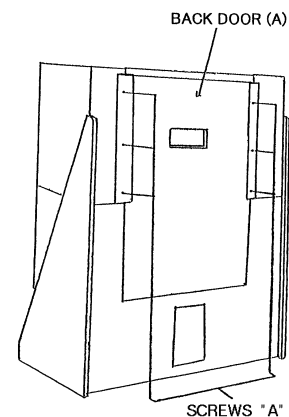

Fig. 22
2. Remove the back door (A) from the projector main cabinet (Package No. 20/23) by loosening the screws A. Refer to Fig. 22.